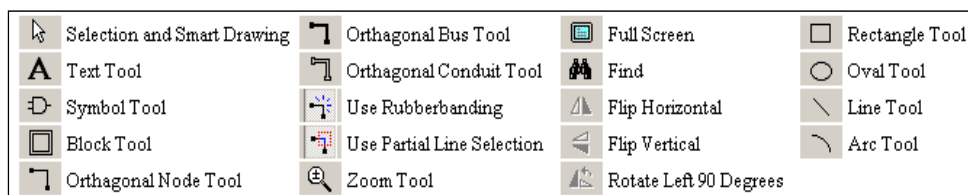

Figure 6-8
12. A column of icons appears to the left of the Block Diagram window. These icons are identified in Figure 6-8 and will be referenced to by name as the lab progresses.